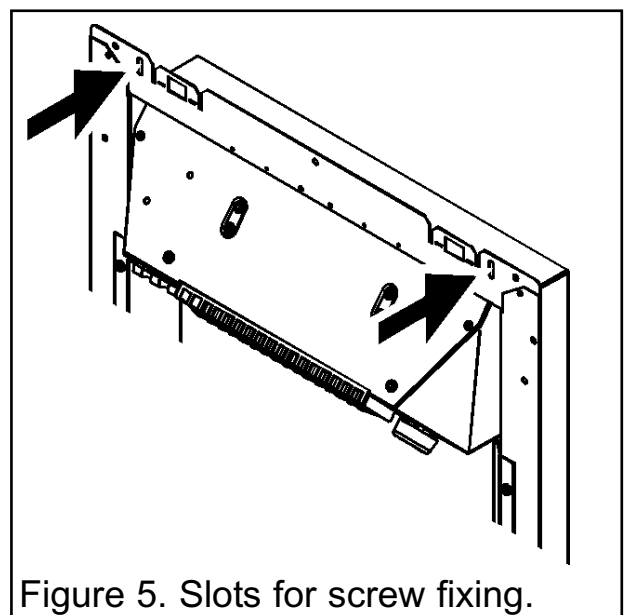

Figure 5. Slots for screw fixing.
2. There are two slotted holes in the top of the heater (See figure 5). Mark through the slotted holes so that their position is clear when the heater is removed.